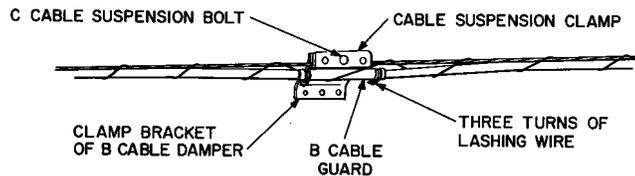
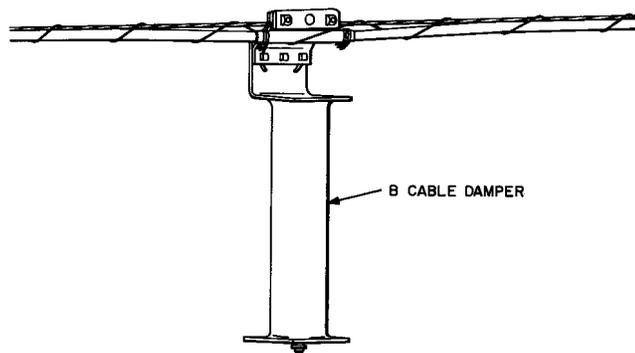

Fig. 14—Strand Attachment B Cable Damper
Fig. 15—B Cable Damper Installed
4.26 Using a C Cable Suspension Bolt in the center hole of a cable suspension clamp, attach the suspension clamp and the clamp bracket of the damper to the strand as shown in Fig. 14. Tighten all nuts securely. Place the cable damper in position, secure it to the clamp bracket by inserting the center bolt, and tighten the nut with lockwasher sufficiently to hold the assembly. Allow the damper to assume its normal vertical position. Insert the outer bolts, place lockwashers and nuts and tighten the assembly securely (Fig. 15). For proper operation it is important that the damper is in a vertical position regardless of the grade of the line.